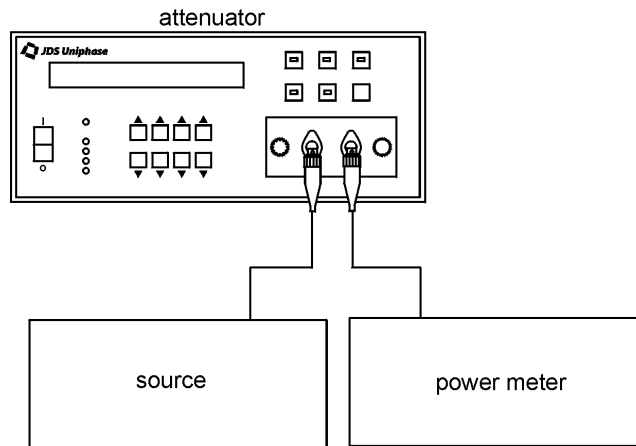

Figure 10: Wavelength Verification Setup
1. With the attenuator powered off (O), clean all optical connections before each connection with an alcohol-soaked swab. See the **Cleaning Connectors** section.
5. Connect the source to the attenuator, and connect the attenuator to the power meter (Figure 10).
4. Connect the source to the attenuator, and connect the attenuator to the power meter (Figure 10).